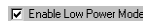

Figure 2-8. Activate Low Power Mode
9. Select and check the **Enable Low Power Mode** check box to put the receiver’s processor into low power consumption mode (Figure 2-8).